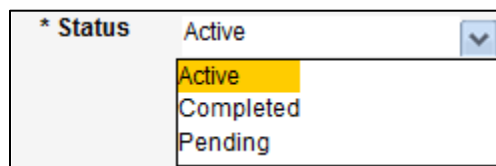

Figure 2-9. Project Status Selection
- a. Point to its **Status** field (Figure 2-9), and change the value of **Pending** (default) to **Active**.
3. Use the **Status** drop list (Figure 2-9) to select **Completed** status on the Project record.
3. Use the **Status** drop list (Figure 2-9) to select **Active** status on the Project record.